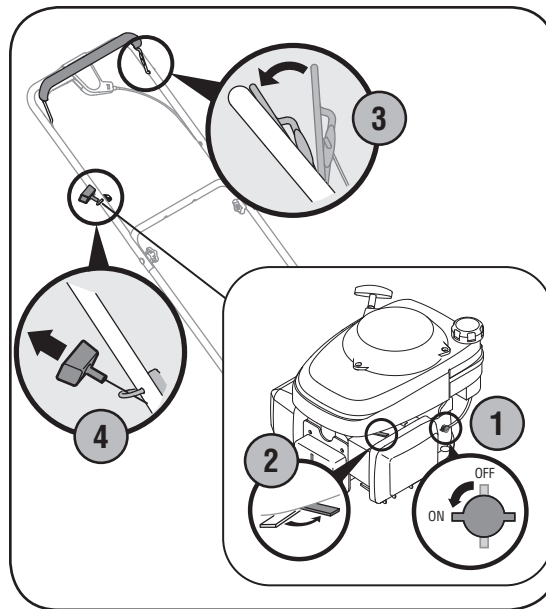

Figure 4-2
1. Place the fuel valve lever found on the left side of the engine into the ON position. See Figure 4-2 inset.
3. Standing behind the mower, squeeze the blade control against upper handle. See Figure 4-2.
4. Holding these two handles together firmly, grasp recoil starter handle and pull rope out with a rapid, continuous, full arm stroke. See Figure 4-2. Keeping a firm grip on the starter handle, let the rope rewind slowly. Repeat until engine cranks. Let the rope rewind each time slowly.